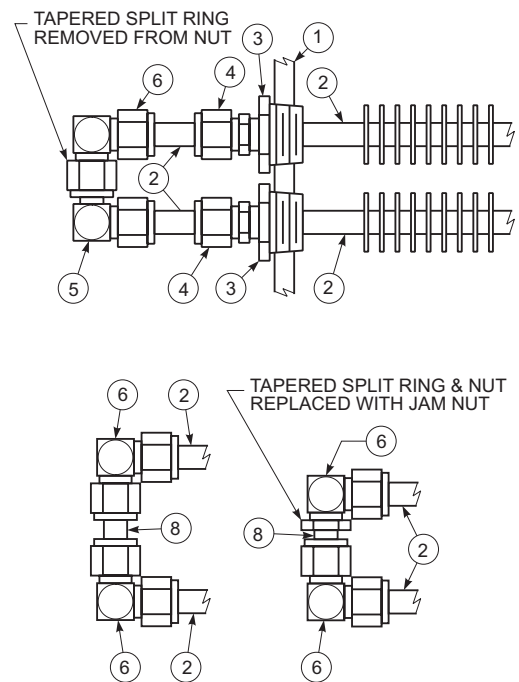

Figure 8
4. For shutdowns at ambient temperatures less than 32°F (0°C), drain the cooling tube system by removing the “loop end” assemblies on the end of the drive opposite the water inlet. Refer to Figure 8 on page 25 for typical assemblies and record location of assemblies for reinstallation purposes.